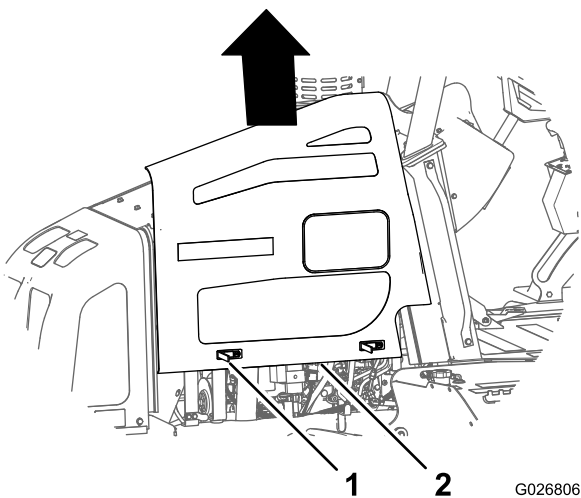

Figure 61
4. Lift the panel up and then away from the machine (Figure 61).